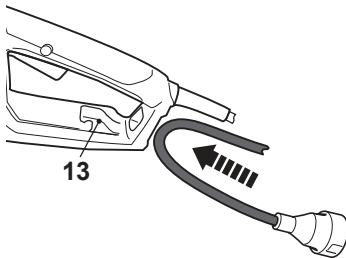

Fig. 14
- > Make sure the on/off switch (17) is in its off position.
- > Double the extension cable, hook the loop over the cable strain relief (13). Gently pull on the cord to ensure that it is firmly attached at the handle (Fig. 14, 15).